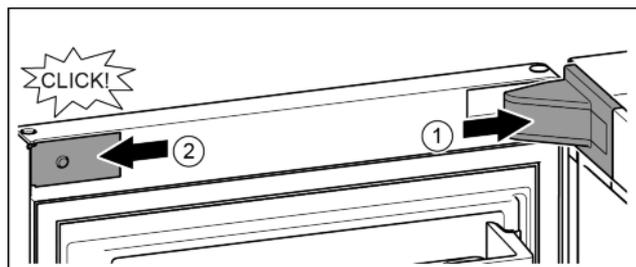

Fig. 23
- ▶ Put the mounting block cover on and click into place. If necessary push apart carefully. Fig. 23 (1)
- ▶ Position the cover plate on the side and click into place. Fig. 23 (2)